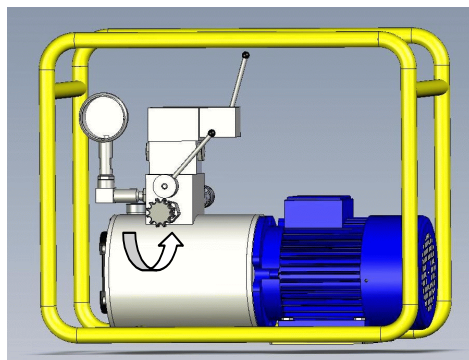

Figure 18
- ⑨ Measure of drag:
- Position the pressure regulating valve of the hydraulic station in the wide open position (*Figure 18*).